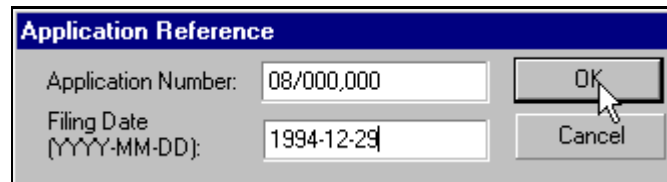

Figure 4-19 Application Reference Window
4. Optional Step: Entering a **Filing Date**. Type the date in the Filing Date field using the YYYY-MM-DD format indicated in Figure 4-19.